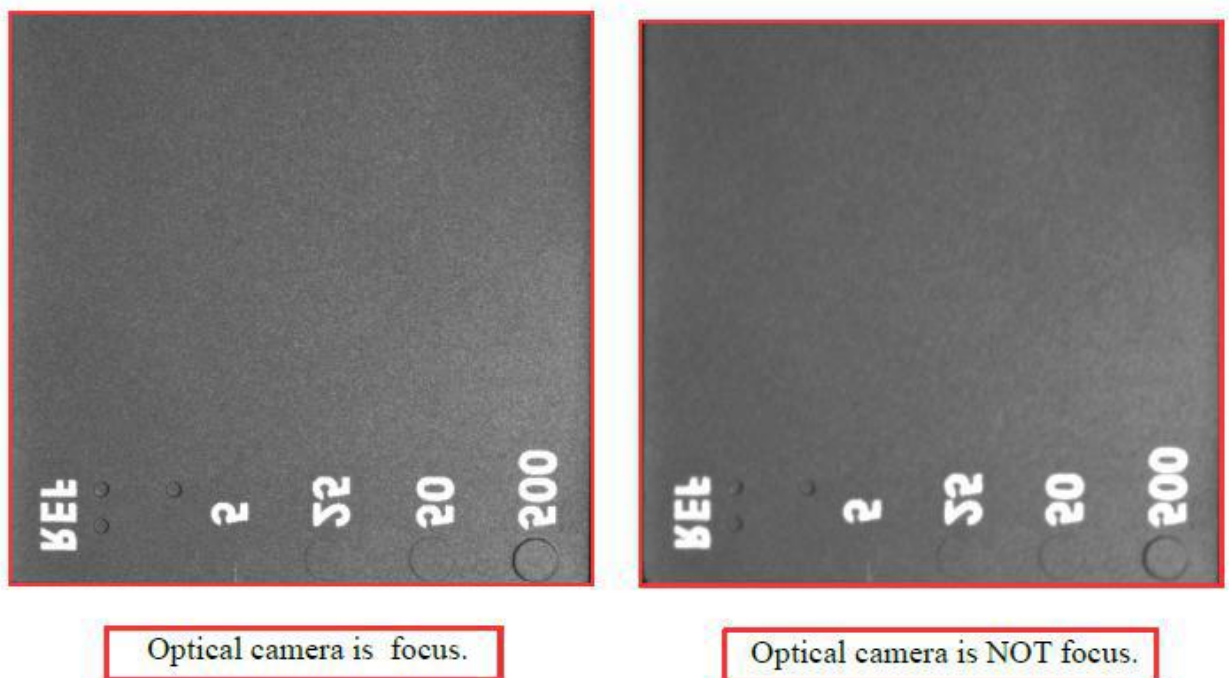

Figure 44 All Plane Focusing
43. Verify wording on all plane in focus. (REF plane, 5 plane, 25 Plane, 50 plane, 500 plane) as below Figure 44. Repeat Step 42 to 43 until all are plane in focus. Tighten the dial of optical camera once completed.